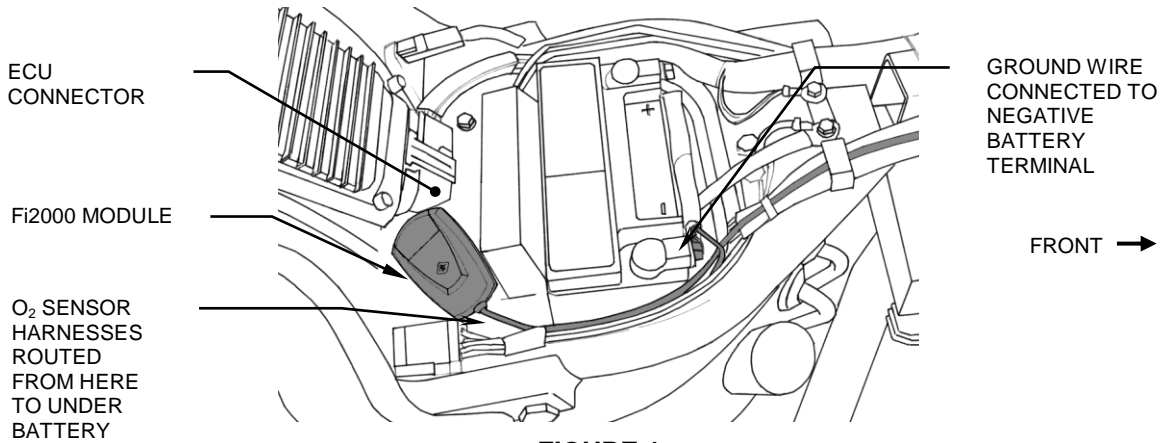

FIGURE 1
2. Lay the Fi2000 module in the area underneath the seat, do not attach it to the motorcycle, route the injector wire harness forward up the right side of the frame backbone, see Figure 1. Route the forward set of connectors under the upper motor mount.
10. Reinstall the battery, attach the black wire to the negative post of the battery, see Figure 1.
11. Before re-installing the gas tank, seat and air cleaner assembly, verify your connections. Remove the door from the Fi2000 box to expose the LED's. Verify the wire connections by (1) turning the ignition on, prior to starting, and see if all three LED's are on steady. If you have no light, your ground connection (BLACK wire) has not made proper contact or your front injector connection is not complete. (2) After achieving a steady light from all three LED's, start the motorcycle, wait 15 seconds and let it idle, the green light should now be the only LED on. If all three LED's are still on after start up, verify you have attached the injector connectors correctly. Reattach the door when finished. **Note:** Make sure the ignition is turned off before changing any connection.
12. Remove the backing from the Velcro and attach the Fi2000 as shown in Figure 1.